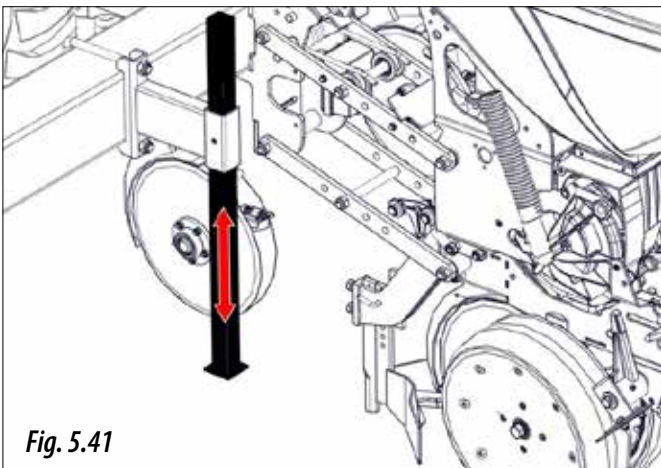

Fig. 5.41
- 3- Move the support foot to the desired position (Fig. 5.41).